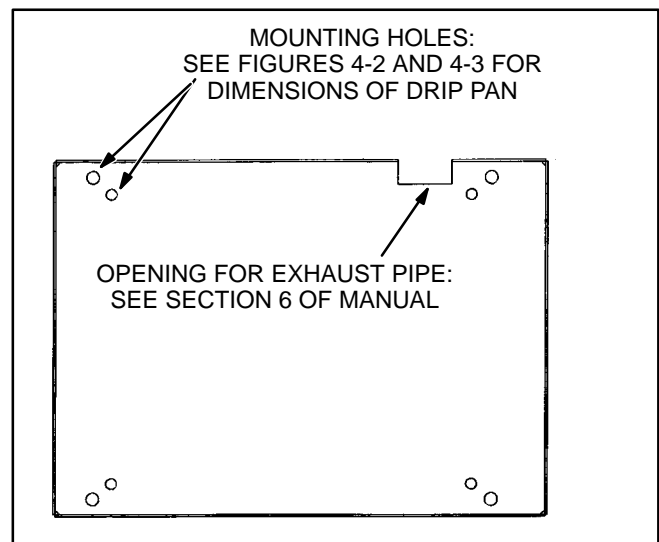

FIGURE 3-4. COMPARTMENT FLOOR MOUNTING HOLE PATTERN
2. Make holes in the bottom of the compartment for genset mounting, air outlet and oil drain (Figure 3-4). If there is wood under the compartment, remove the section under the compartment and replace it with a sheet metal floor and an adequate steel support frame.